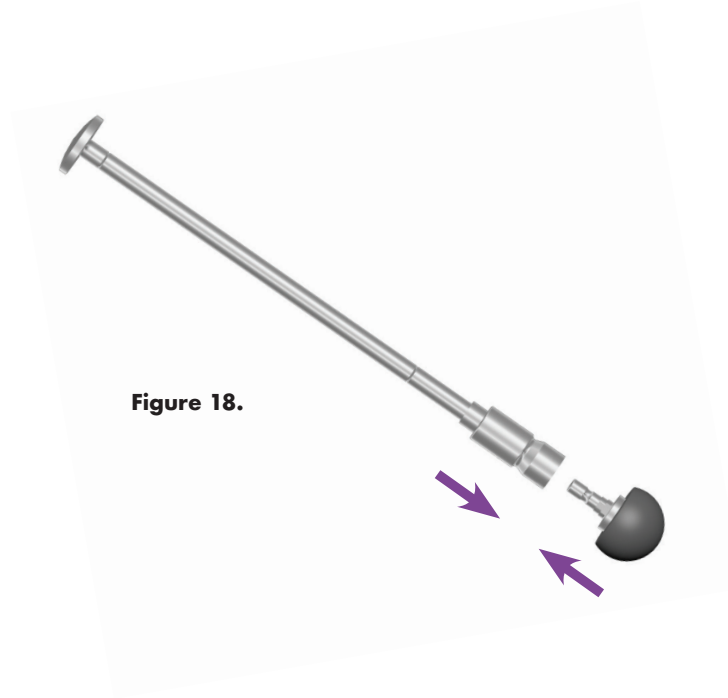

Figure 18.
3. Select the appropriately sized Plastic Insert Impactor Tip and load onto Insert Positioner/Impactor Handle (**Figure 18**).